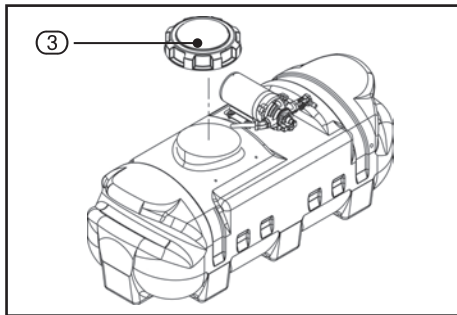

FIG. 14
Remove the fill cap (3) located on top of the sprayer (Fig. 14)